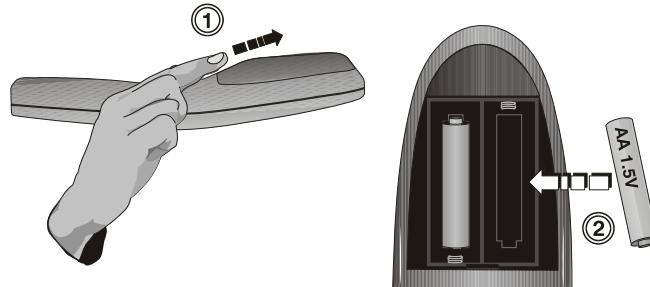

Figure 4.1. Replacing Batteries
1. Open the battery compartment at the backside of the keypad by placing your thumb in the oval depression and sliding the cover out about $\frac{1}{2}$ inch. See Figure 4.1. Remove the old batteries and properly discard. Wait a minute or two.